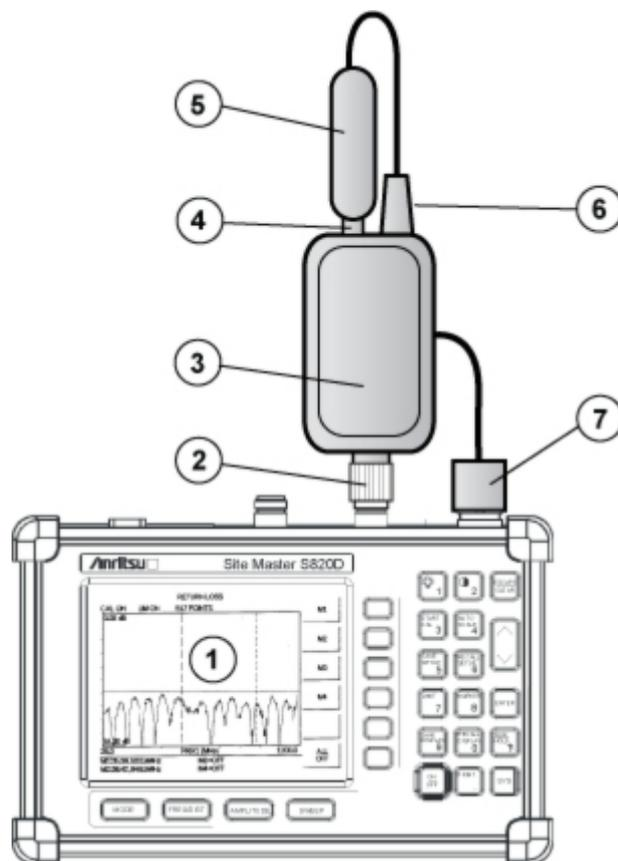

Figure 2-7. Two-Port Cable Loss General Connections
5. Connect the cable of the CW Source Module to the **CW Source Module Interface** port of the S8X0D as shown in Figure 2-7 below.
Table 2-1. Callout Index for Figure 2-7, “Two-Port Cable Loss General Connections”